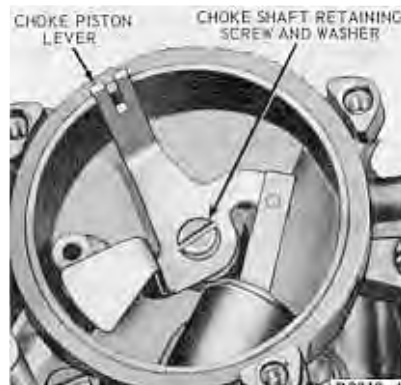

FIG. 16—Choke Shaft and Piston Lever
4. Remove the choke lever retaining screw and washer (Fig. 16). Remove the choke piston lever from the housing. If necessary, remove the pin securing the choke piston to the choke lever link. Remove the choke lever and fast idle cam lever from the choke housing.